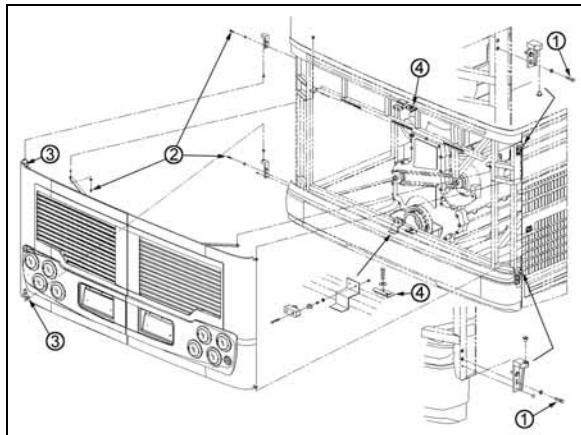

FIGURE 30: ENGINE COMPARTMENT DOORS
1. Loosen the bolts, (1, 2 Fig. 30) holding the hinge to the vehicle structure to shift the door "UP or DOWN".
2. Loosening the bolts (3, Fig. 30) allows the door to be shifted "LEFT or RIGHT" and "IN or OUT".
To adjust the latch mechanism (4, Fig. 30) and the striker pin: